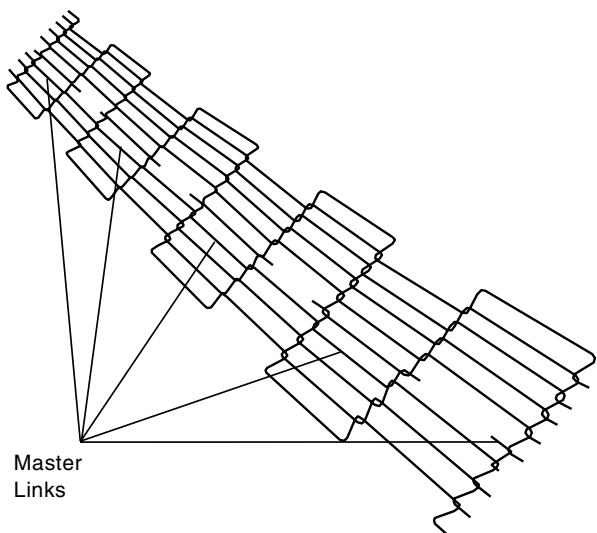

Figure 4-25.
1. Using long nose pliers, an entire link can be removed with the conveyor assembly either in or out of the oven. Position master links at end of conveyor as shown in Figure 4-25.